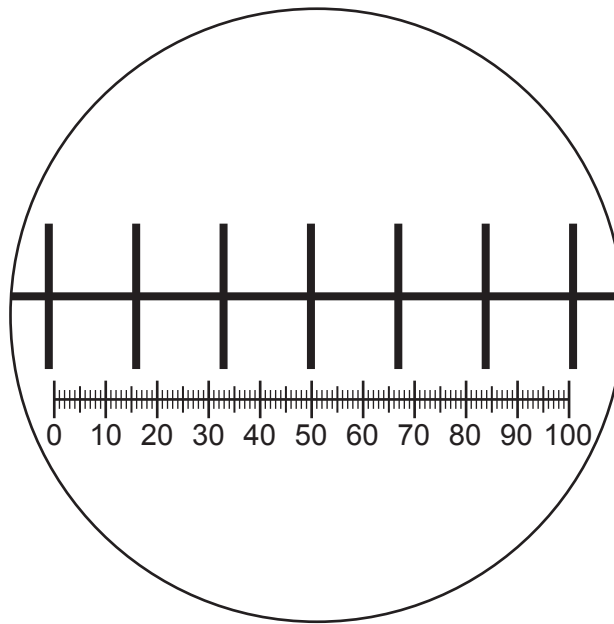
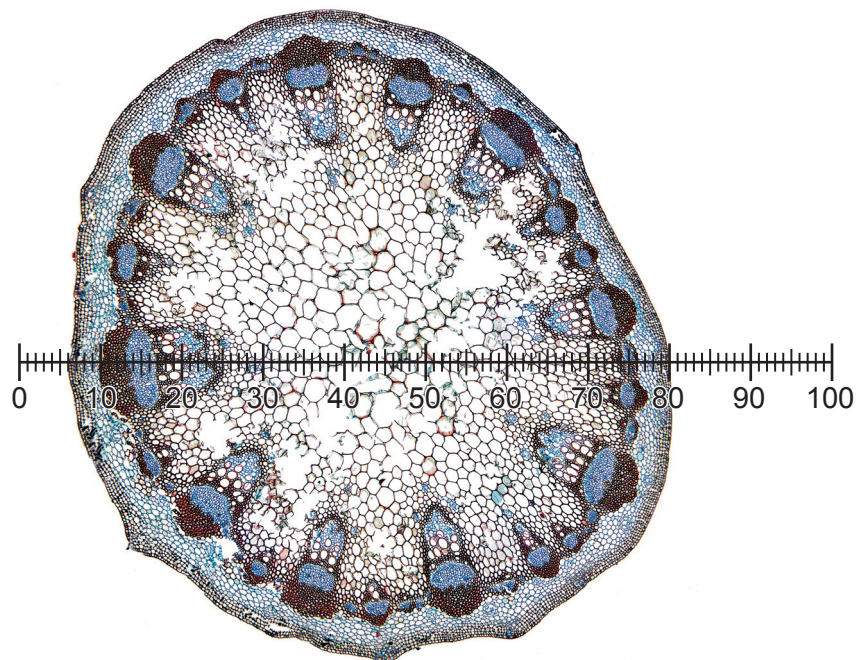

Fig. 2.2
Fig. 2.3
- (b) Fig. 2.2 shows a diagram of a stage micrometer scale that is being used to calibrate an eyepiece graticule.
- (i) Use Fig. 2.2 to calculate the actual length of one eyepiece graticule unit.
Fig. 2.3 shows a photomicrograph of a transverse section through a different stem to **K1**. This was taken with the same microscope and lenses used to take Fig. 2.2. The eyepiece graticule has been placed across the diameter of the section.
- (ii) Use the calibration of the eyepiece graticule from **(b)(i)** to calculate the actual diameter of the section in Fig. 2.3.
- (iii) Identify **three** observable differences, other than size and colour, between the stem section on **K1** and the stem section on Fig. 2.3.